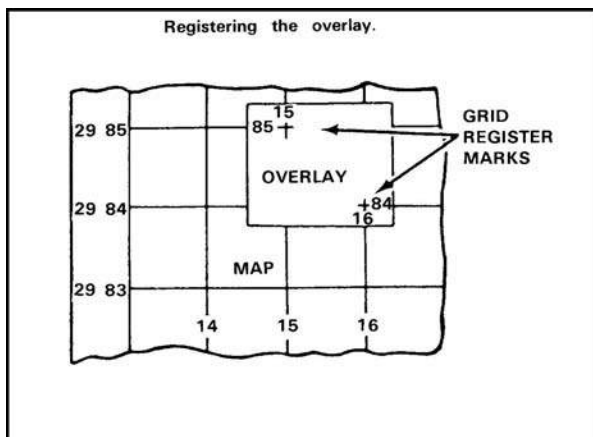

Figure 071-329-1019-1. Registering the overlay
3. Place the overlay on the map so that the grid register marks fall exactly on top of the grid intersections (figure 071-329-1019-1).